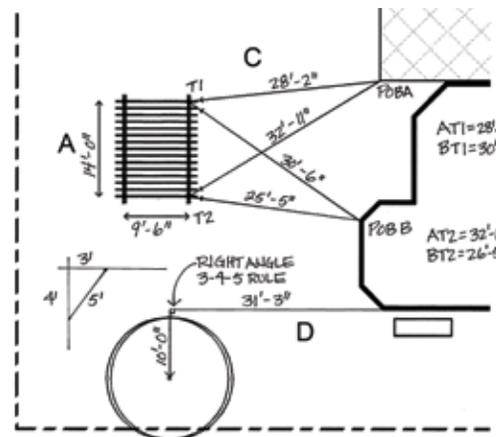

FIGURE 6. Triangulation measurements for arbor (Credit: Gail Hansen)
Figure 6 shows another use of the triangulation method (C). In this situation, two points are located at the posts
of a trellis (T1 and T2). Each point is measured from two different corners of the house (POB A and POB B). Figure 6 also shows simple point-to-point measurements (A) between the corner posts of the trellis and a simple grid or right angle measurement (D) to locate the tree. In the right angle method, a tape is pulled as an extension of the side of the house and a second tape is pulled from the center of the tree. Where the two tapes cross, the 3-4-5 rule from basic geometry, $A^2 + B^2 = C^2$, is used to make sure the tapes form a right angle (90°). This means the square of the hypotenuse (long side) of a right triangle is equal to the sum of the square of both legs (Pythagorean Theorem). Start by crossing the tape from the tree over the tape from the house at a right angle. Estimate the angle by sight. Measure 4 ft from the corner of the tree tape and mark, then measure 3 ft from the corner of the house tape and mark. Measure the distance between these marks with a third tape. If the distance is 5 ft, it is a right triangle. If not, adjust the tapes until you have a 5 ft hypotenuse (long side of a right triangle) and 3 and 4 ft legs on the triangle. For longer distances, use a larger number combination where all three numbers are multiples of 3-4-5, such as 15-20-25 (3 x 5 = 15, 4 x 5 = 20, 5 x 5 = 25).